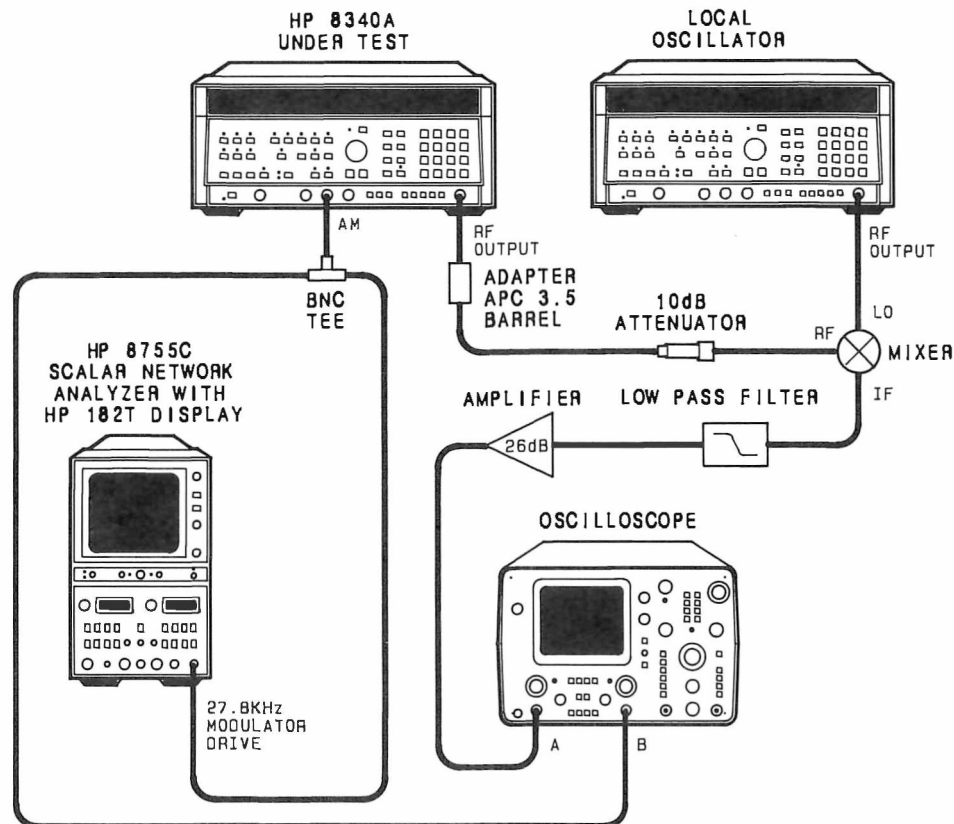

Figure 5-49b. Pulse Modulation Rise and Fall Time Test Setup
1. Connect equipment as shown in Figure 5-49b. Connect the mixer directly to the local oscillator RF output to obtain maximum LO drive to the mixer. connect the BNC tee directly to the HP 8340A AM connector. Allow at least 30 minutes warm up time.